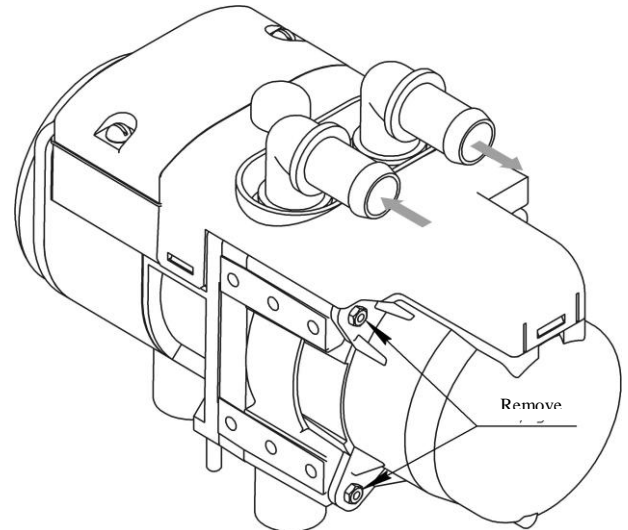

Fig. 5. Fastening of the case to the air blower
- remove the screws fastening the case to the air blower (Fig. 5),